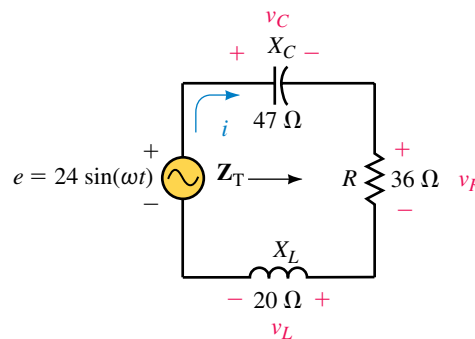

FIGURE 18–95
23. Refer to the circuit of Figure 18–95.